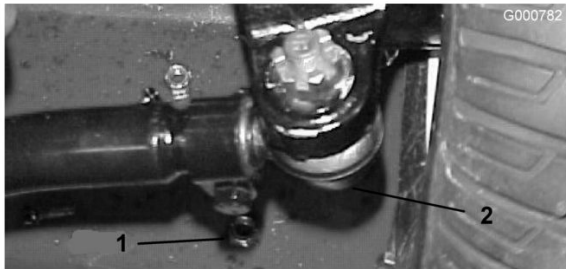

Figure 69
2. To adjust, remove the cotter pin and nut from either tie rod ball joint. Remove tie rod ball joint from axle case support (Figure 69).
3. Loosen the clamps at both ends of the tie rods (Figure 69).